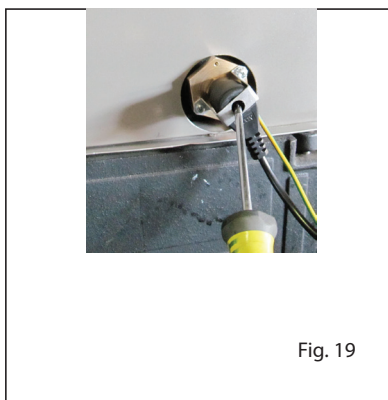

Fig. 19
2.6 SAFETY THERMOSTAT (fig. 19)